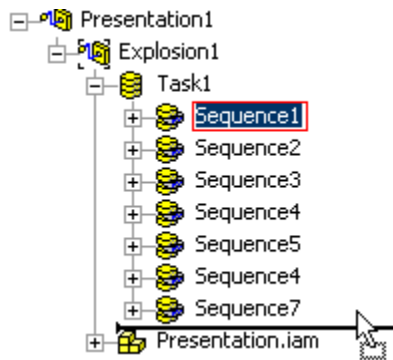

Figure 14: Drag and drop resequencing.
1. In the browser, click Sequence1. Drag and drop it below Sequence7 (see Figure 14).